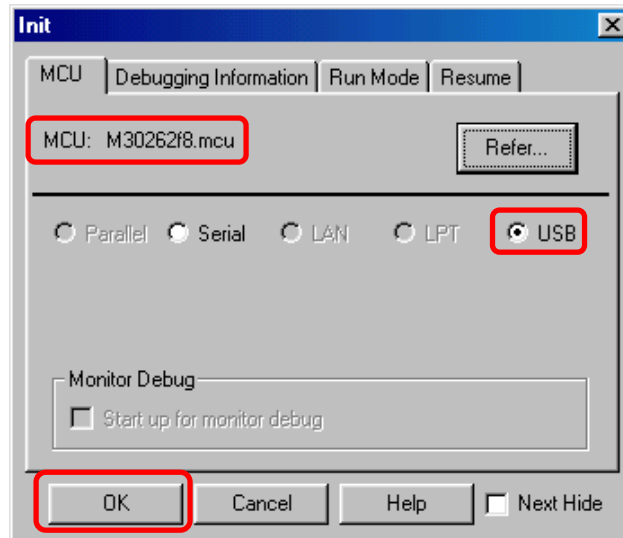

Figure 5-4 Init screen-2
- 3) The Init screen of the Figure 5-4 opens when it is done after a MCU File is chosen. Choose "USB" as the communication interface and click the <OK> button.